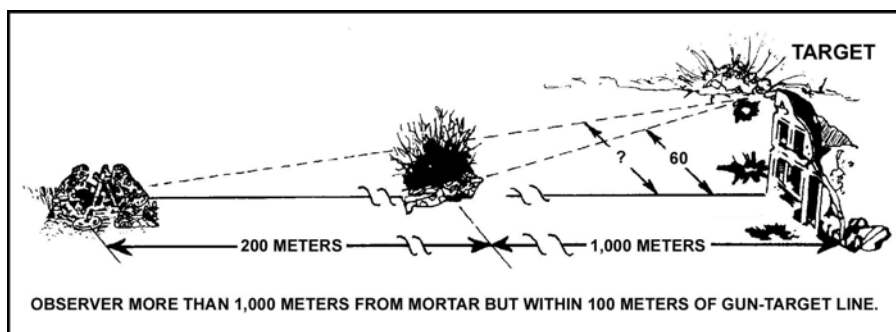

Figure 2. Range Correction
- EXAMPLE: The OT distance is 1,000 meters, and the G-T distance is 1,200 meters. The spotting by the FO/squad leader is L60. To determine the correction to send to the gunner, the FO/squad leader determines the correction (Figure 2) as follows: